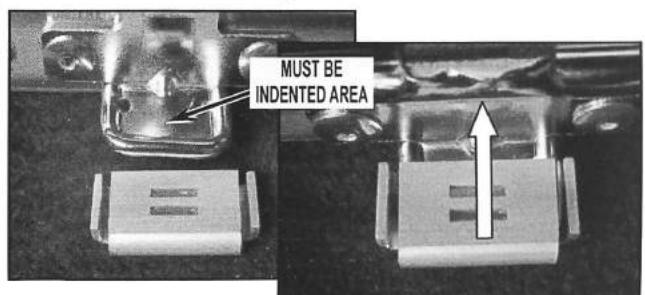

FIGURE 10
a) Ensure that long flat end of bracket is facing the top side of the rack and the slotted side is facing the bottom side of the rack. See Figure 10.
- b) Place bracket over the tab of the rack and press on completely. See Figure 10.